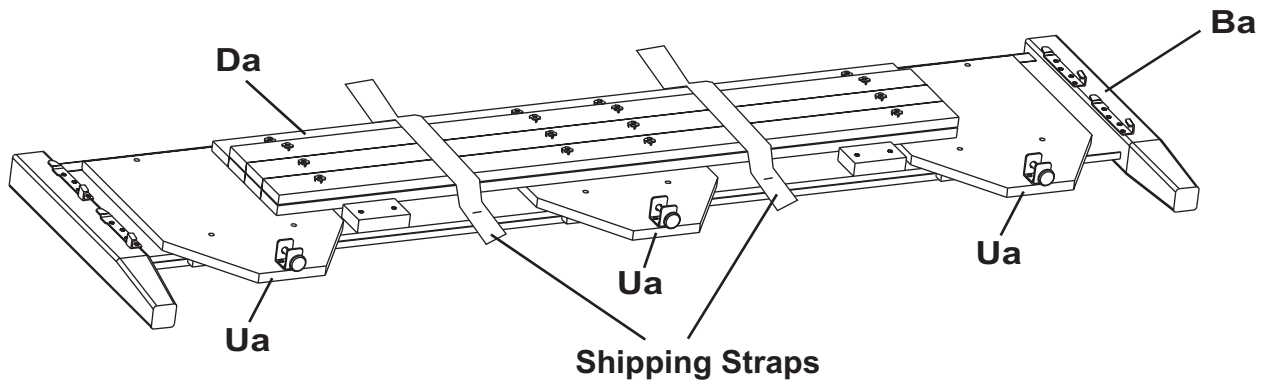

Fig. 1
1. Remove the Trestles (Da) and Foot Assemblies (Ua) from the back of the Footboard (Ba) and place them off to the side. See Figure 1.